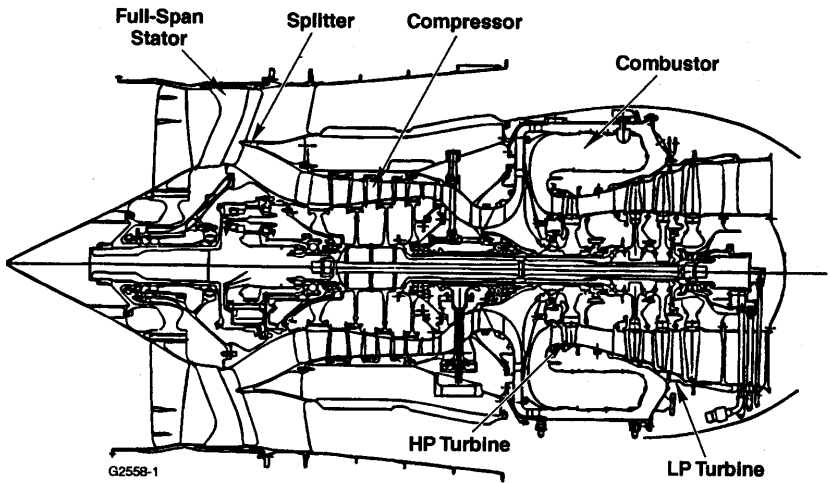

Figure 7-71-1. TFE731-40 Engine Cross-Section
The cross section of the engine is shown in Figure 7-71-1, page VII-71-3. The spinner and high-efficiency axial-flow fan are located at the forward end. The fan is gear driven by a low-pressure (LP) rotor with a fan gearbox output-to-input speed ratio of 0.5556. The LP rotor consists of a four-stage LP axial compressor and a three-stage LP axial turbine, both mounted on a common shaft. The accessory gearbox is driven through a transfer gearbox by the high-pressure (HP) rotor. This rotor consists of an HP single-stage, centrifugal compressor and an HP single-stage, axial turbine, both mounted on a common shaft. The LP and HP rotor shafts are concentric, so that the LP shaft passes through the HP shaft.